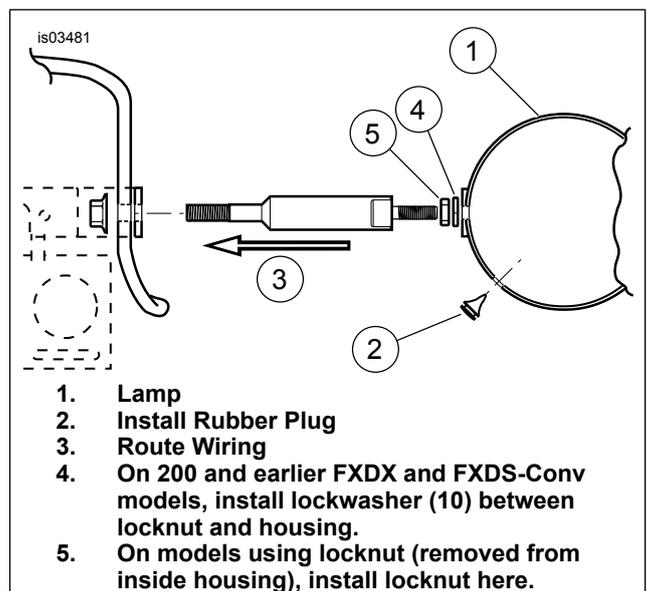

Figure 7. Typical Housing Mounting and Wire Routing for Models equipped with Tube-Style Supports
- e. See Figure 7. Install rubber plug into the hole vacated by the wires.
6. See Figure 7. Install lamp housing onto the support as shown.